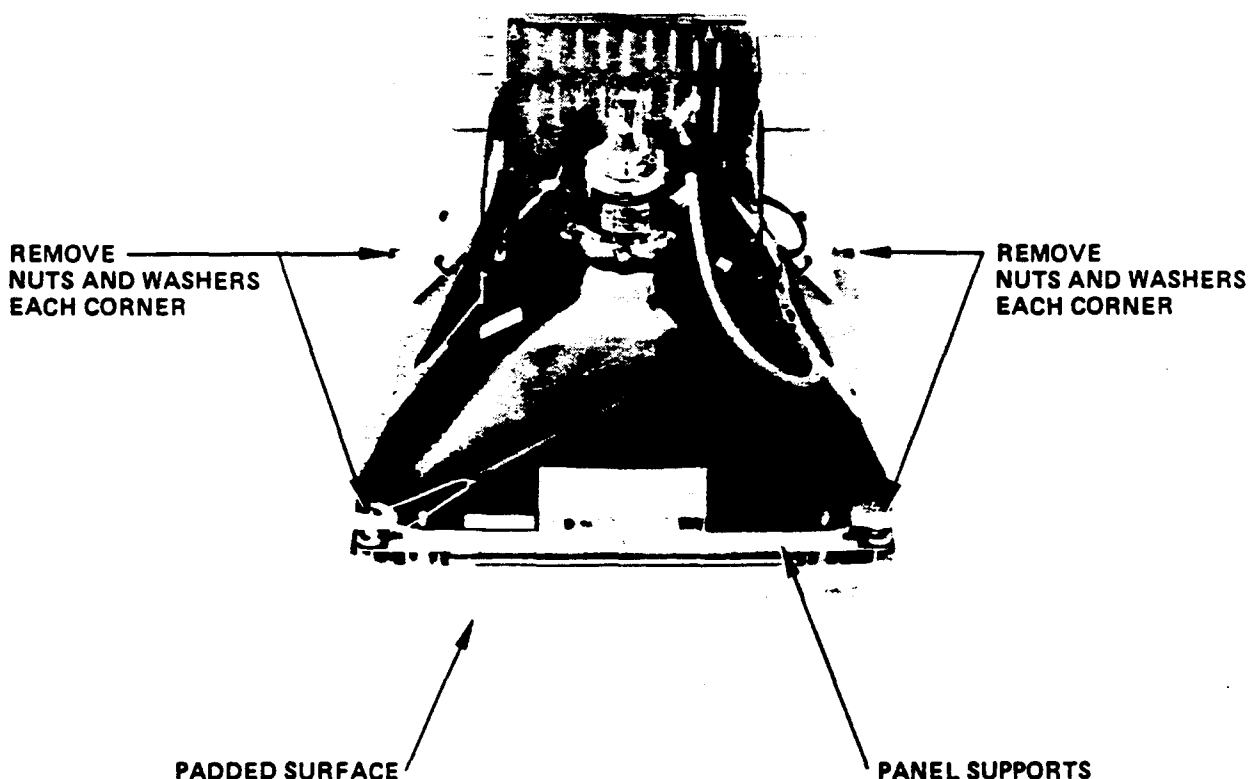
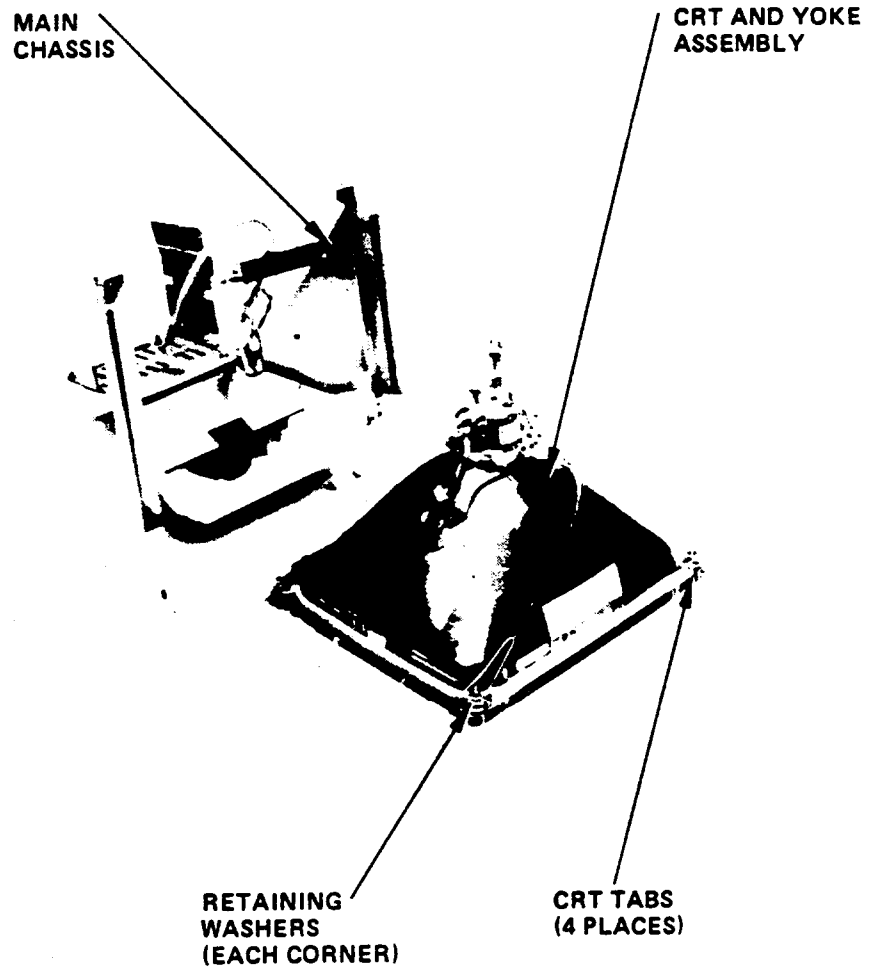

Figure 2-6. Removal of the CRT and Yoke Assembly
Figure 2-7. Removing the CRT and Yoke Assembly from the Main Chassis
3. After removing the Video/Power Supply PCB Assembly remove the four small nuts and the four washers that secure the Bezel and CRT/Yoke Assembly to the panel supports and main chassis (refer to Figure 2-6). The removal of the four nuts and washers is most easily done by placing the CRT and Yoke Assembly face downward as shown in Figure 2-6. Put a piece of foam rubber or some other soft material underneath the screen so as not to damage the CRT. Lift the CRT/Yoke Assembly off the Main Chassis as shown in Figure 2-7.
4. Remove the four retaining washers (one on each corner of the CRT) as shown in Figure 2-7. Remove the four larger nuts and washers from the CRT tabs (use a 5/16 inch nut driver).